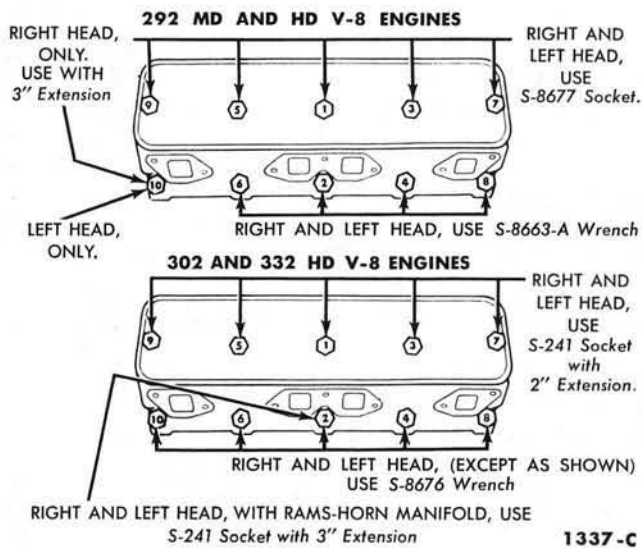

FIG. 27—Cylinder Head Bolt Tightening Sequence
2. Place the cylinder head on the engine, then remove the holding fixtures. Coat the cylinder head bolt threads with water resistant sealer and install the bolts. The cylinder head bolt tightening procedure is performed in three progressive steps. Tighten the bolts to the specifications listed in Table 2 following the sequence shown in Fig. 27. Each step in the tightening procedure is performed with the engine cold. **After the cylinder head bolts have been tightened to specifications, the bolts should not be disturbed.**